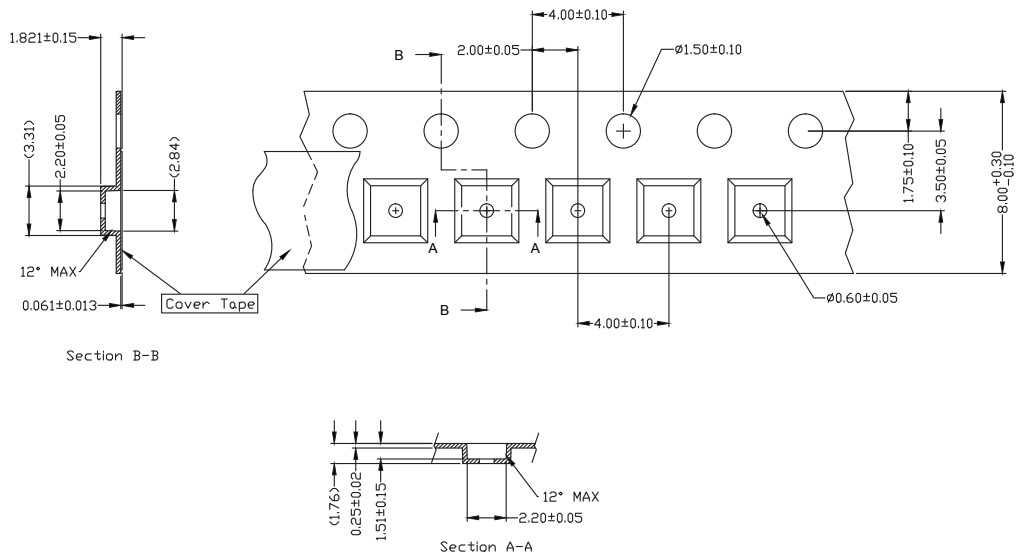

Figure 9a. Pocket tape dimensions for LUXEON SunPlus 20 Line.
- Notes for Figures 9a and 9b: